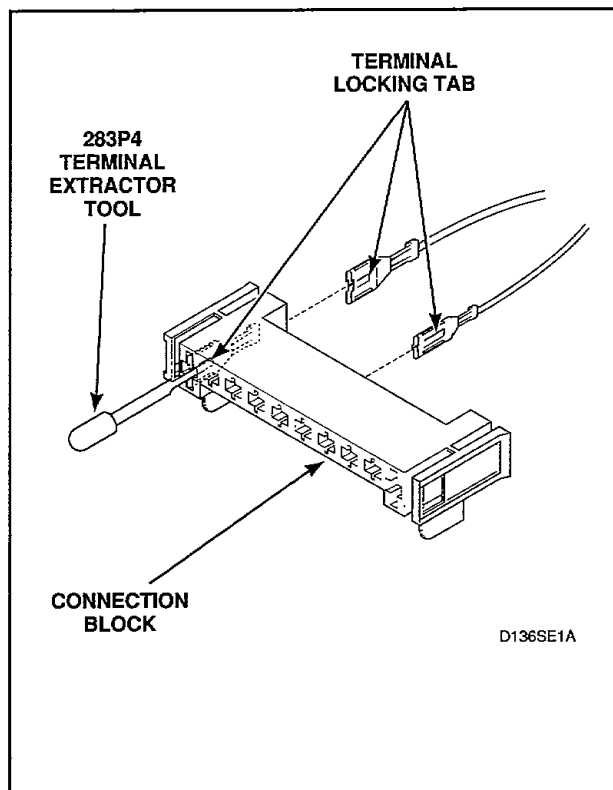

Figure 37
- (1) Insert the tool into the block on the back of the terminal being removed, *Figure 37*.
- (2) Apply tool pressure to compress the terminal locking tab on terminal and force the terminal and wire out back side of connection block, *Figure 37*.